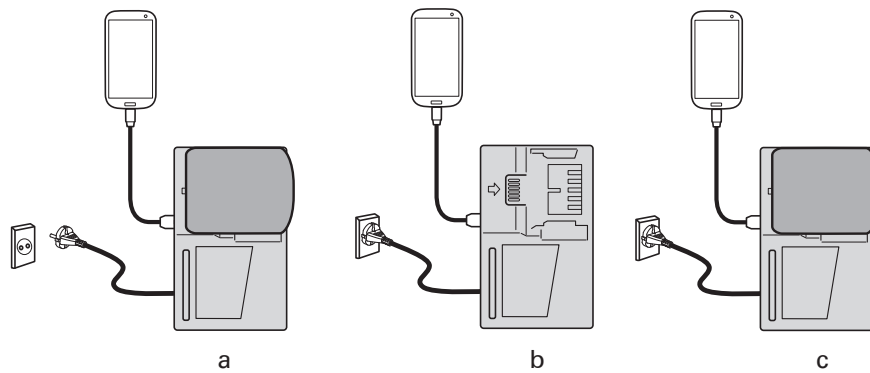

Fig. 16c
HOW TO RECHARGE USB DEVICE (Fig. 16c-16d)**⚠ WARNING**
- Charging a USB device by battery (Fig. 16c-a)
- Charging a USB device from a electrical outlet (Fig. 16c-b)
- Charging a USB device and battery from a electrical outlet (Fig. 16c-c)